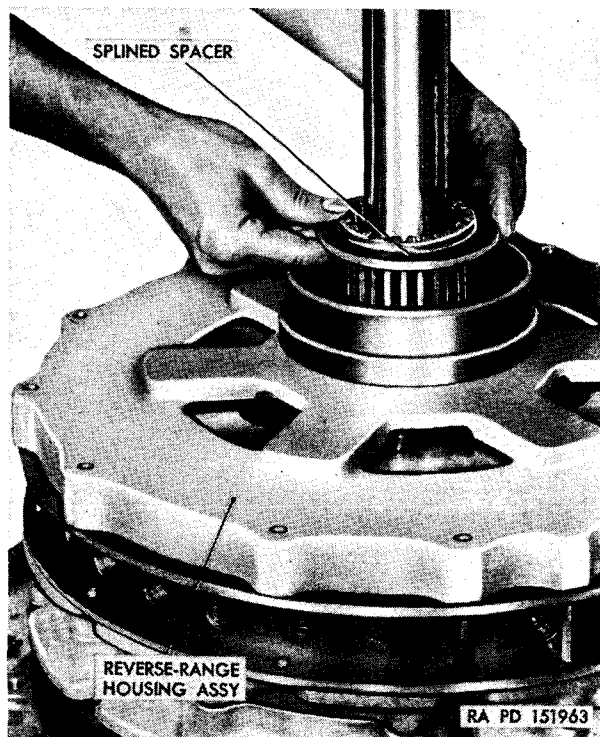
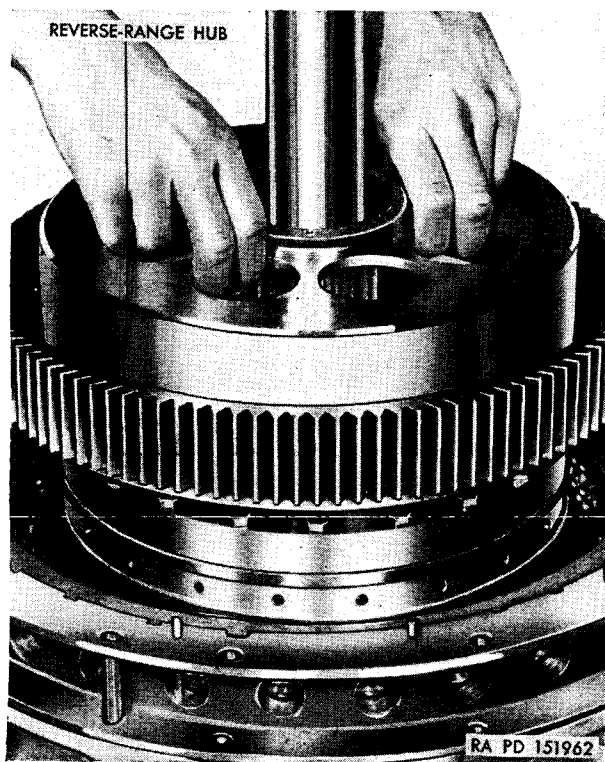

Figure 224. Installing splined spacer.
Figure 223. Installing reverse-range hub.
- (1) Install a thrust washer over the hub of the high-range housing. Install the reverse-range ring, seating it with a soft hammer.
- (2) Install the reverse-range hub, being careful to aline the bolt holes (fig. 223). Seat the hub on the reverse-planet carrier by tapping with a soft hammer. Install twenty-four $\frac{5}{16}$ -inch bolts in the hub.
- (3) Install a single-face-bronze reverse-range clutch disk with the bronze side up. Install five steel disks and four bronze disks alternately, beginning and ending with a steel disk. Install a single-face-bronze disk with the steel side up.
- (4) Install the reverse-range piston in the reverse-range housing assembly ((2)b above).
- (5) Install a thrust washer on each side of the housing hub, using hard grease on the washers so that they will stick to the housing. Install the housing on the reverse-range ring, being careful to see that the dowels and oil transfer tubes enter their bores in the housing. Be careful not to allow the piston to drop out of the housing. Seat the housing by tapping on it with a soft hammer.
- (6) Turn the two package-unit bolts into the threads in the reverse-range housing. Tighten the bolts evenly.
- (7) Install the splined spacer, flat side down, on the reverse-range housing hub (fig. 224). Using external snap ring pliers, install the snap ring (fig. 189).